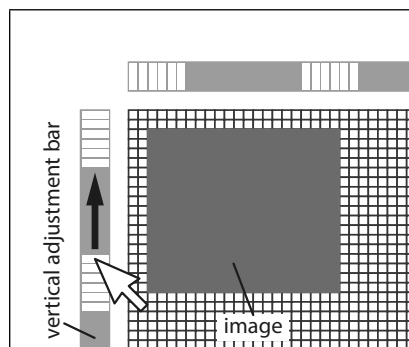

Fig. 98
2. Click and hold down on the left mouse button whilst moving the cursor up and the individual pixels will highlight (in white) one by one up the bar, as shown in **Fig.98**.